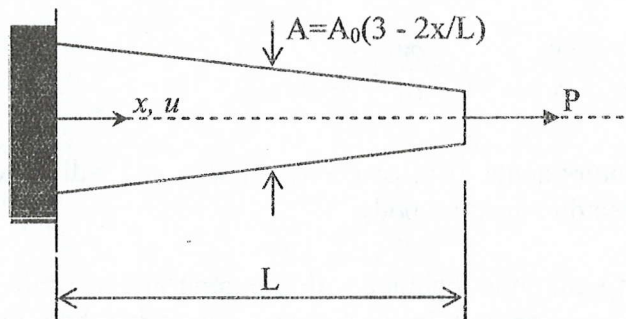

Figure 4.0
- (b) By specializing the equation of principle of virtual displacement to the case of 1D-problem, derive the governing equation of equilibrium for the problem of a tapered bar subjected to concentrated load as shown in Figure 4.0, where  $A$ ,  $L$  and  $P$  are the cross-sectional area, length of the bar and concentrated load, respectively. State also the force and displacement boundary conditions. Young modulus of the bar is  $E$ .